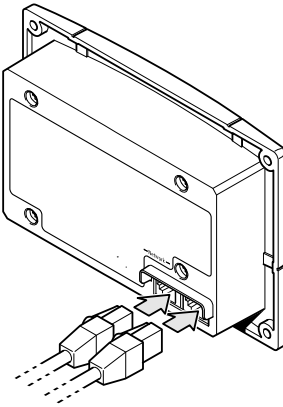

**Figure 2-5** Securing the Mounting Plate
4. Secure the mounting plate by tightening the two screws to rotate the tabs to the horizontal position (see Figure 2-5) and pull the tabs tight against the inner surface of the wall. Be careful not to overtighten the screws and damage the wall.